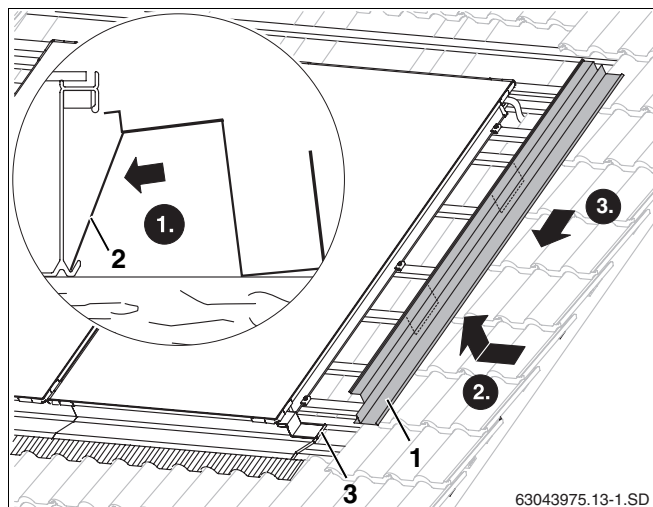

Fig. 49 Fitting the side facing panel on the right
- ▶ Place the mounting plates (Fig. 49, **Item 2**) into the lower edge of the collector.
- ▶ Place the edge of the right and left side facing panels (Fig. 49, **Item 1**) up into the recessed grip on the collector and push in over the lower facing panel.
- ▶ Press the fold overlap on both panels together to fix in place (Fig. 49, **Item 3**).